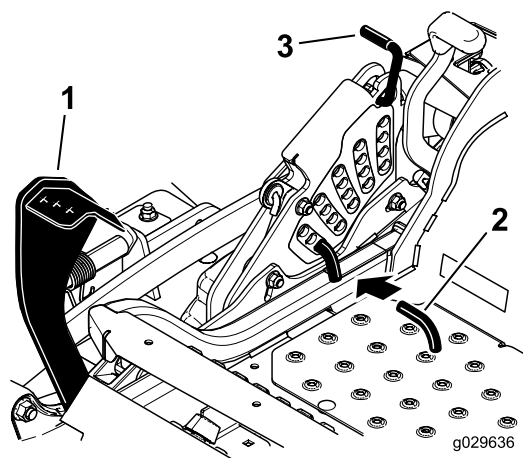

Figure 94
5. Push the deck lift pedal all the way forward and the deck will latch at the 14 cm (5-1/2 inch) transport position (Figure 94).